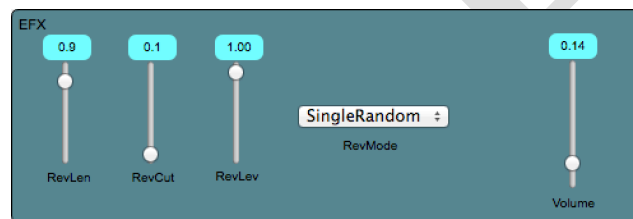

Figure 24 - Reverberation controls and overall level (EFX panel)
- > two vertical sliders (riscale cc value inside a specified minimum/maximum range). In figure 24 th external cc 1 is scaled between 40 and 100% of its value.